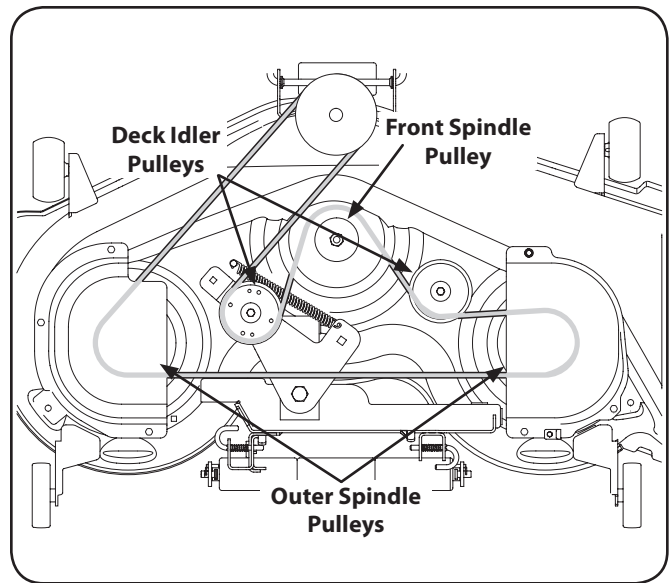

Figure 7-8
4. To place the new belt begin by routing the belt around the two outer spindle pulleys, then around the front spindle pulley as shown in Figure 7-8.
5. Then route the belt around the two deck idler pulleys as show in Figure 7-8.